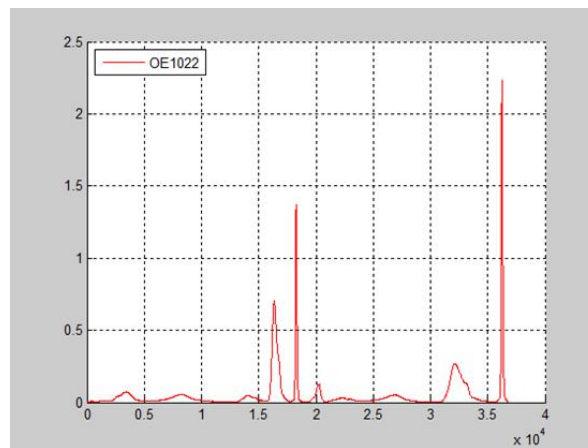

Fig.104 Spectrum Curve measured by OE1022
4. Start the spectral measurement and collect data from the data collection platform. Then, you will get an uncalibrated spectral curve as is shown in Fig.104